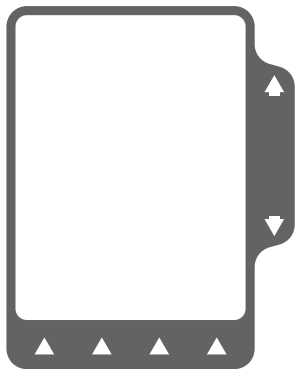

Figure 3-2 All Light Screen
- b. The entire Main Display becomes light (Figure 3-2).